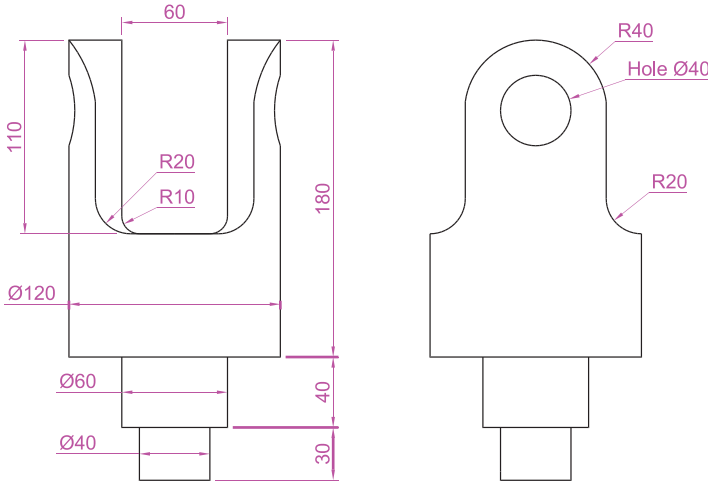

Fig. 7.3 Front and end views of the solid
2. Draw what is seen when the solid is viewed from the left-hand end of the front view. This produces an **end view**. Figure 7.3 shows the end view alongside the front view.